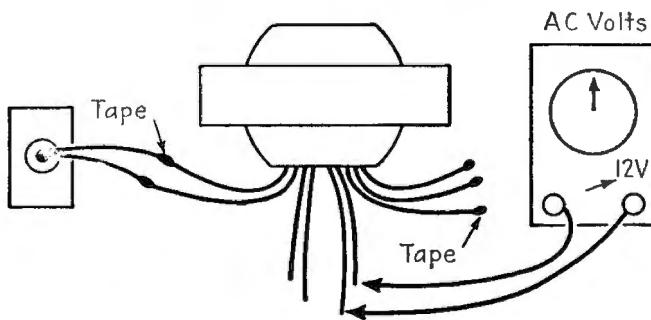

FIG. 8-9.—Identifying the amplifier heater winding.
- 3. Connect the primary to the AC line, and check the voltage of the filament windings to determine which is the amplifier and which the rectifier filament winding (Fig. 8-9).